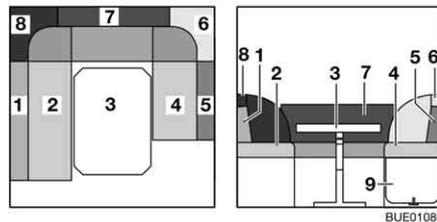

Fig. 97 Prior to conversion
- Convert the table (Fig. 97,3) to a bed foundation (see section 6.11).
- Unlatch and fold up the bedding box extension (Fig. 97,9).